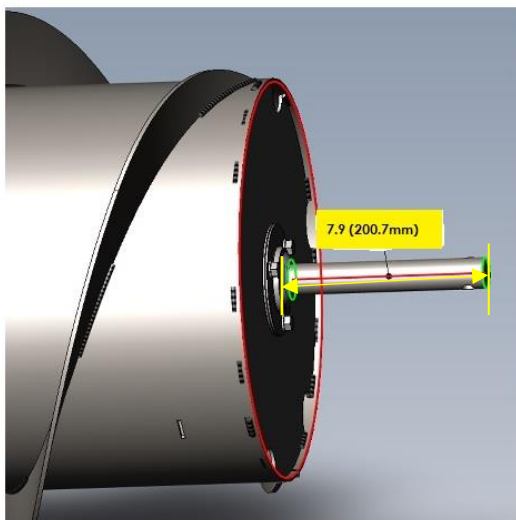

Figure 37
24. Support the left end of the shaft and adjust the shaft so that 7.9" (200.7mm) of the shaft extends through the bearing. Figure 37 Tighten the lock collar on the bearing